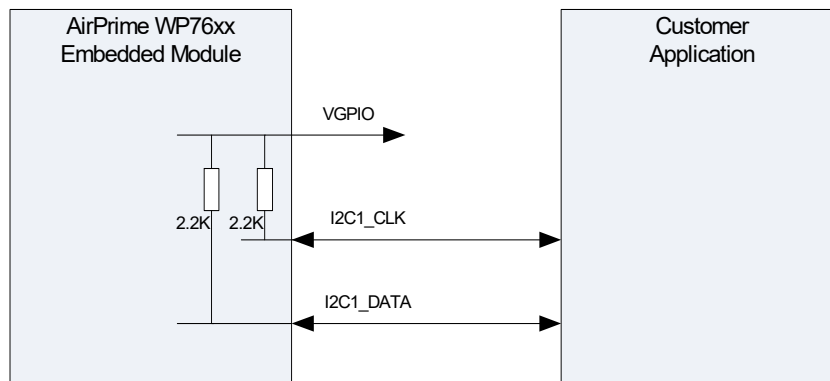

Figure 4-3: Example of I²C Bus Application
- I²C signals are implemented internally as open drain outputs (per the I²C specification) with 2.2 k Ω pull-up resistors to VGPI0 (see Figure 4-3 on page 90).